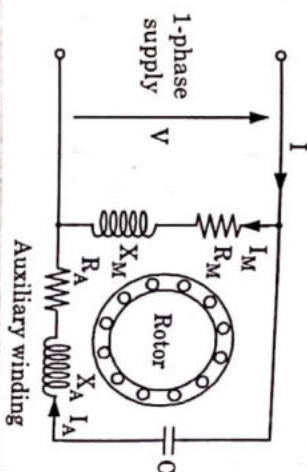

Fig. 4.31.3. Permanent-split capacitor motor.
- A permanent-split capacitor (PSC) motor is shown in Fig. 4.31.3.